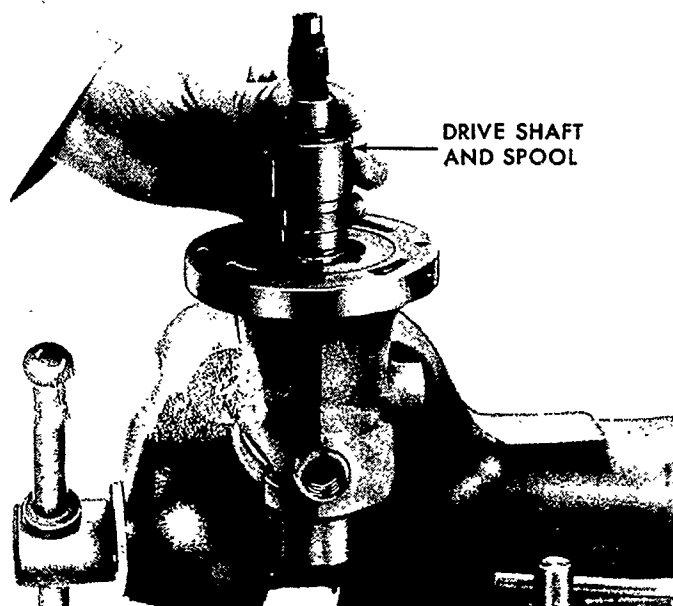

Figure 96
15. Remove the drive shaft and spool assembly, Figure 96, from the valve body housing. Do not use force.